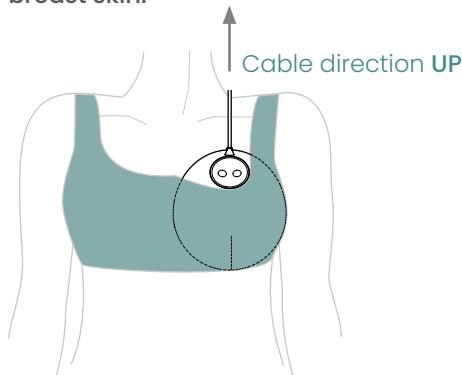

Figure 12.2.2
2. Reposition the bra, if required, to ensure the device is well-supported and in a comfortable position. The correct position of the preconditioning unit is with the controller and cable in the 12 o'clock position (Figure 12.2.2).